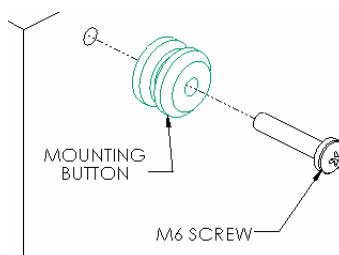
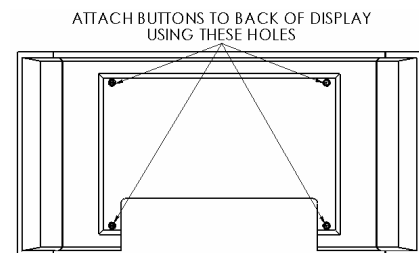

Figure 3
Figure 4
2. Attach mounting buttons to the display using the M6 screws provided (see Figure 3 & Figure 4).